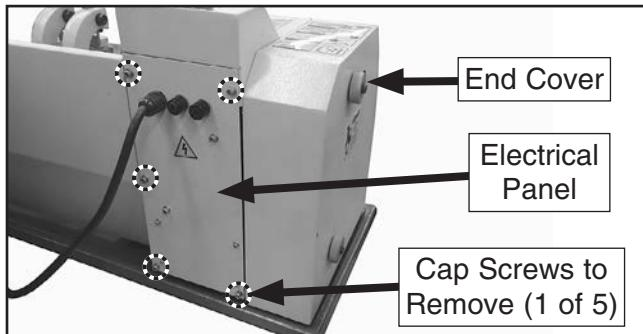

Figure 139. Location of parts for removing panel.
2. Remove end cover and electrical panel (see **Figure 139**).
The cross slide backlash is adjusted by tightening and loosening the set screw shown in **Figure 139**. The set screw adjusts the height of the leadscrew nut, taking up lash between the nut and leadscrew.